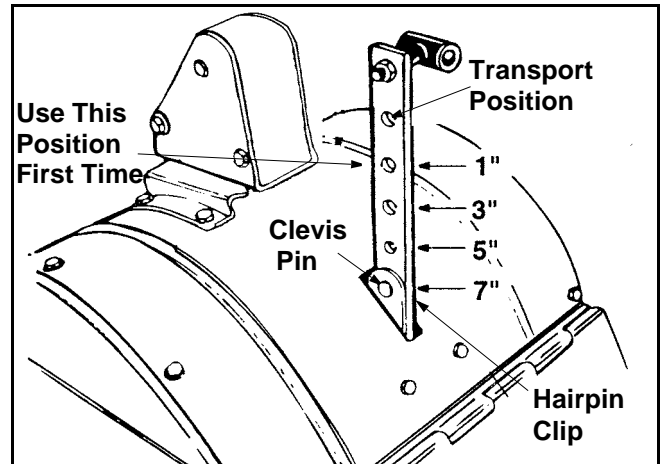
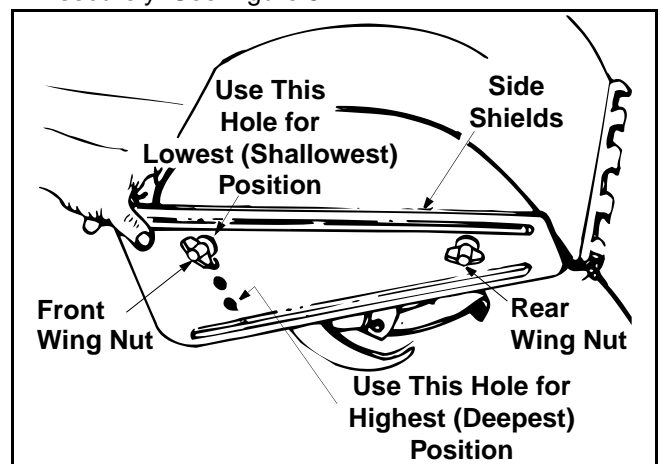

Figure 7
Figure 8
WARNING: When operating the tiller for the first time, use the depth stake setting that gives 1 inch of tilling depth (second hole from the top). See Figure 7.
Tilling depth is controlled by the depth stake which can be adjusted to five different settings. See Figure 7. Adjust the side shields as shown in Figure 8, as you adjust the depth stake. Be certain spark plug wire is disconnected and grounded against the engine.
- To adjust the depth stake, remove the clevis pin and hairpin clip. See Figure 7. Move the depth stake to the desired setting.
- To adjust the side shields, remove the front wing nut and loosen the rear wing nut. Place side shield in position desired. Replace wing nuts and tighten securely. See Figure 8.
- When using the tiller for the first time, use the second adjustment hole from the top (1" of tilling depth). See Figure 7.